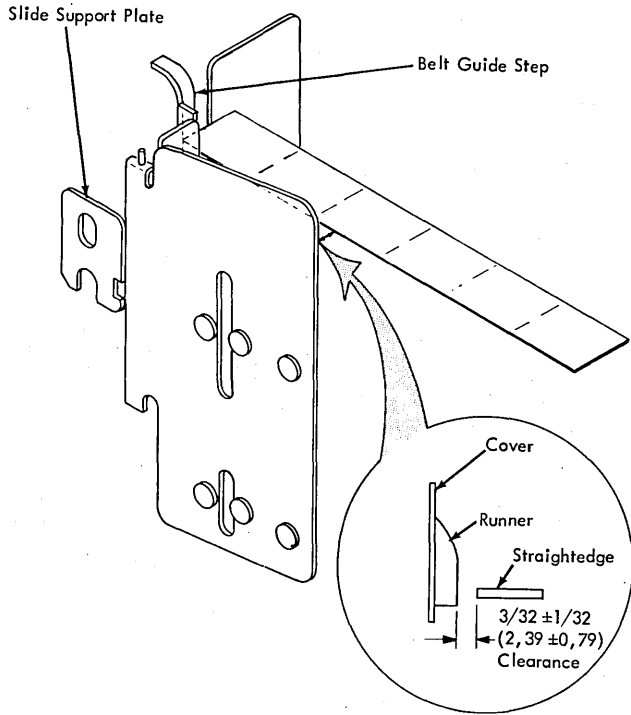

Figure 4-12. Tractor-Door Opening Limit
7. Adjust the slide support plate to limit the tractor door open position. Place a straightedge against the belt-guide step perpendicular to the tractor guide plate as shown in Figure 4-12. Adjust the slide support plate to obtain $3/32 \pm 1/32$ in. ($2, 39 \pm 0, 79$ mm) clearance between the door and the straightedge. Be sure to maintain proper belt tension when tightening the plate holding nut.